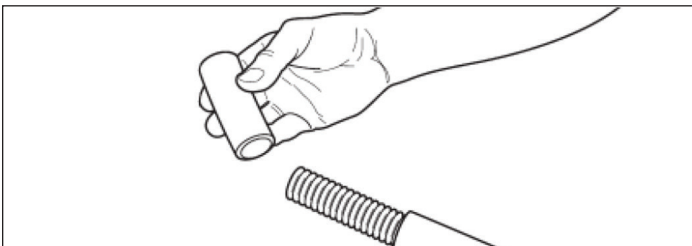

Figure: 1-5
8. Remove cut portion of the sleeve (Figure 1-5).